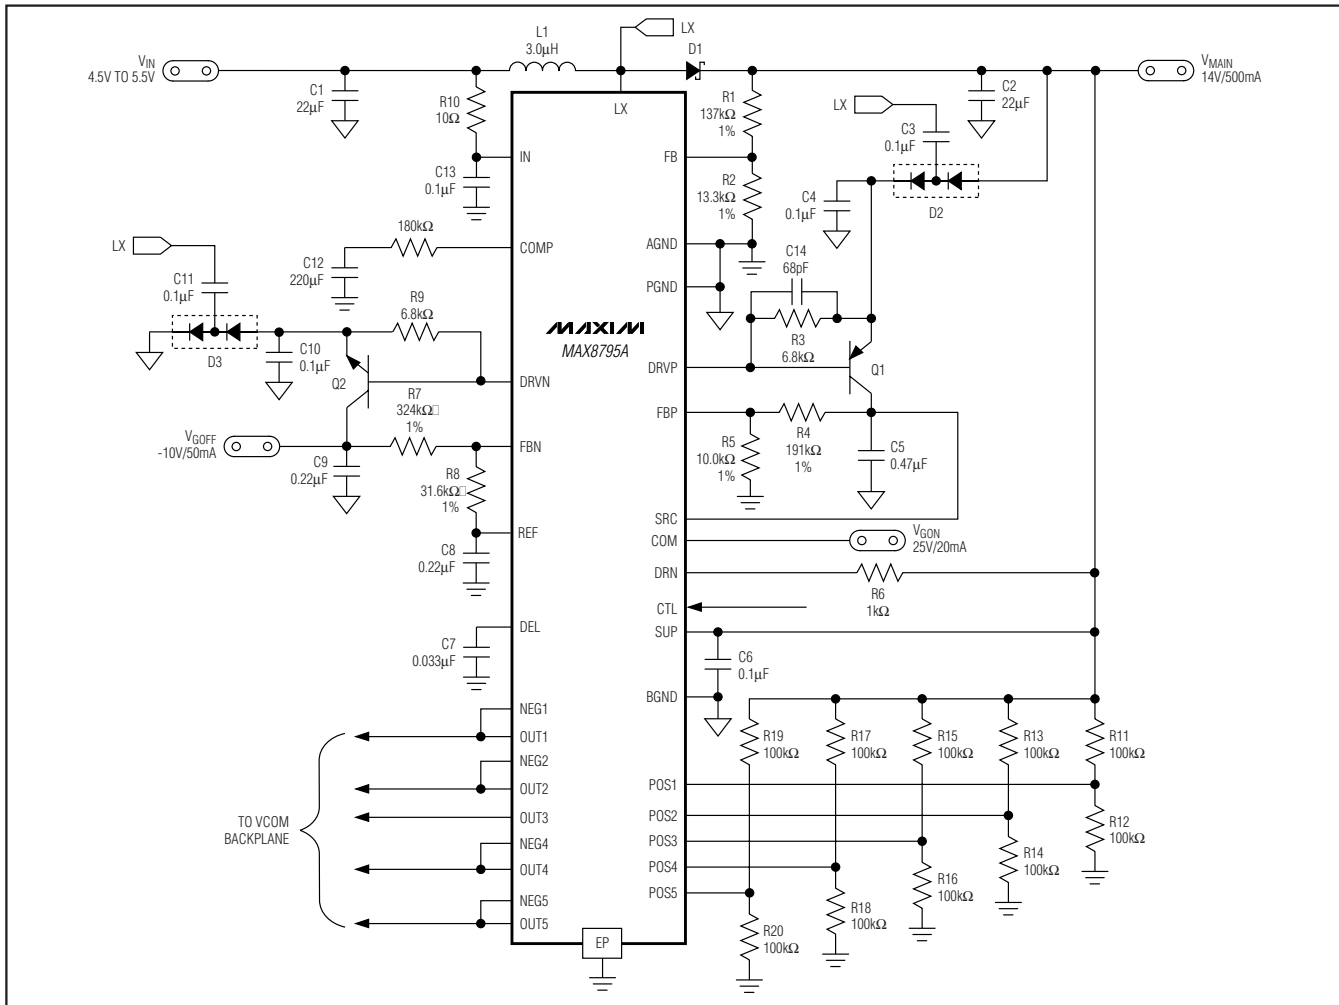

Figure 1. Typical Operating Circuit
(Circuit of Figure 1, $V_{IN} = 5V$, $V_{MAIN} = 14V$, $V_{GON} = 25V$, $V_{GOFF} = -10V$, $T_A = +25^\circ C$, unless otherwise noted.)
The MAX8795A typical operating circuit (Figure 1) is a complete power-supply system for TFT LCDs. The circuit generates a +14V source-driver supply and +25V and
-10V gate-driver supplies. The input voltage range for the IC is from +2.5V to +5.5V. The listed load currents in Figure 1 are available from a +4.5V to +5.5V supply. Table 1 lists some recommended components, and Table 2 lists the contact information of component suppliers.
The gate-on linear-regulator controller (REG P) is an analog gain block with an open-drain n-channel output. It drives an external pnp pass transistor with a $6.8\text{k}\Omega$ base-to-emitter resistor (Figure 1). Its guaranteed base-drive sink current is at least 1mA. The regulator including Q1 in Figure 1 uses a $0.47\mu\text{F}$ ceramic output capacitor and is designed to deliver 20mA at 25V. Other output voltages and currents are possible with the proper pass transistor and output capacitor. See the *Pass-Transistor Selection* and *Stability Requirements* sections.
The gate-off linear-regulator controller (REG N) is an analog gain block with an open-drain p-channel output. It drives an external npn pass transistor with a 6.8k Ω base-to-emitter resistor (Figure 1). Its guaranteed base-drive source current is at least 1mA. The regulator including Q2 in Figure 1 uses a 0.47 μ F ceramic output capacitor and is designed to deliver 50mA at -10V. Other output voltages and currents are possible with the proper pass transistor and output capacitor (see the *Pass-Transistor Selection* and *Stability Requirements* sections).
REG N is typically used to provide the TFT-LCD gate drivers' gate-off voltage. A negative voltage can be produced using a charge-pump circuit as shown in Figure 1. REG N is enabled after the voltage on REF exceeds 1.0V. Each time it is enabled, the control goes through a soft-start routine that ramps down its internal reference DAC from V_{REF} to 250mV in 128 steps.